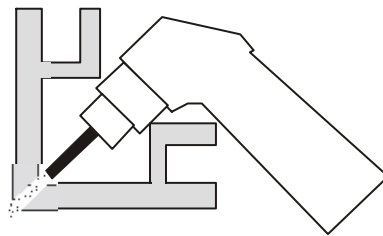

Fig. 7
7. In case of cutting in the corner or around the corner (see Figure 7), use the long electrode and cutting tip (pos. **17** and **20**). The cutting power while using the Long cutting tip is decreased.